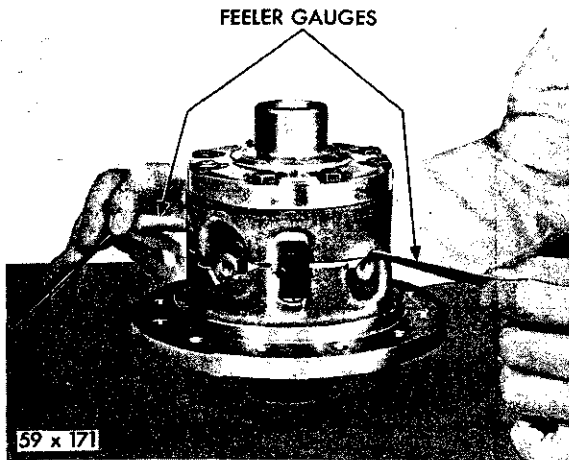

Fig. 43—Measuring the Clearance Between Pinion Shaft and Case
(8) With the shafts installed, center the cross shafts between the two ramp surfaces in the differential case. Tighten the differential case bolts evenly by alternately turning opposite bolts until all are tightened to 45 foot-pound torque. To keep the splines of the side gear and the clutch plates in exact alignment during the tightening procedure, move the axle shafts back and forth as the bolts are being tightened. After assembly, slight misalignments of the splines can be corrected by moving the axle shafts back and forth until free. Remove the axle shafts.
(9) With the differential resting on one hub, insert two feeler blades, one over each end of the pinion shaft having ramps above it (Fig. 43). The clearance should not exceed .010 inch at each end of the shaft.